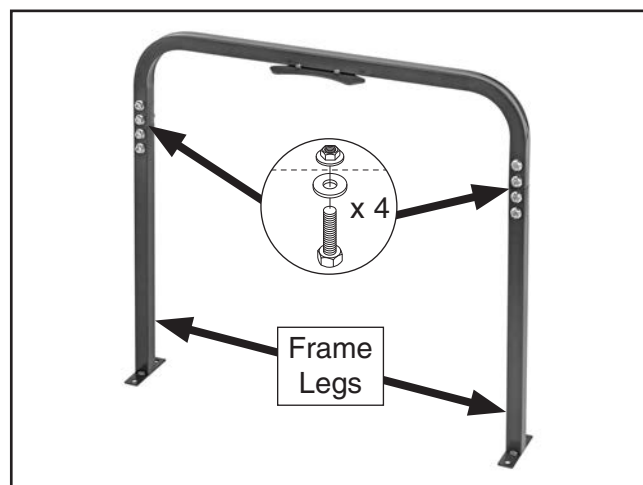

Figure 8. Frame legs attached to frame arch.
9. Attach (2) frame legs to frame arch (see **Figure 8**) with (4) $\frac{5}{16}$ "-18 x $1\frac{1}{4}$ " hex bolts, $\frac{5}{16}$ " flat washers, and $\frac{5}{16}$ "-18 flange nuts. Only hand-tighten for now.